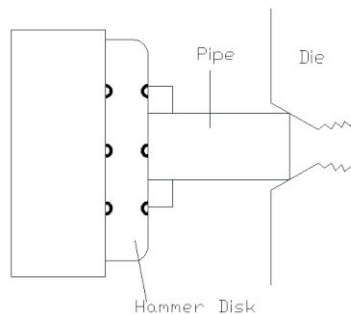

Fig.4
d. If pipe could not reach the Rear Chuck when threads short pipe, to loose little the Front Chuck, put short pipe in and make it touch the Die, which is good for ensuring the pipe is in the central position when tighten the Front Chuck. Pls refer to the Fig.4.